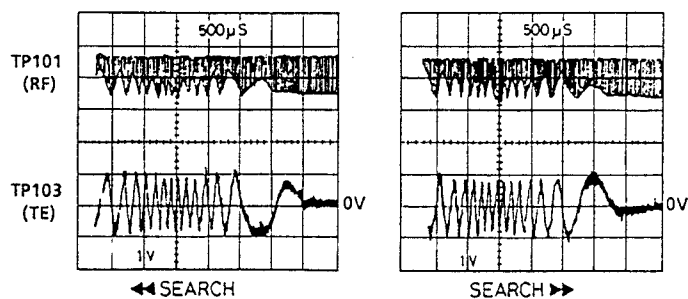

Fig.1
- ① Connect the frequency counter to TP37(H), TP104(E).
- ② Turn on the power of the unit.
- ③ Adjust T102 so that the frequency counter reads 4.30 ± 0.01 MHz.
- ① Connect the oscilloscope to TP103(TE), TP104(E).
- ③ Insert Test Disc and press the Play button.
- ④ Continuously press the forward(or reverse) search button.
- ⑤ Adjust SVR11 so that the waveform of TP103(TE) is vertically symmetrical relative to DC0V level. (Refer to fig.1.